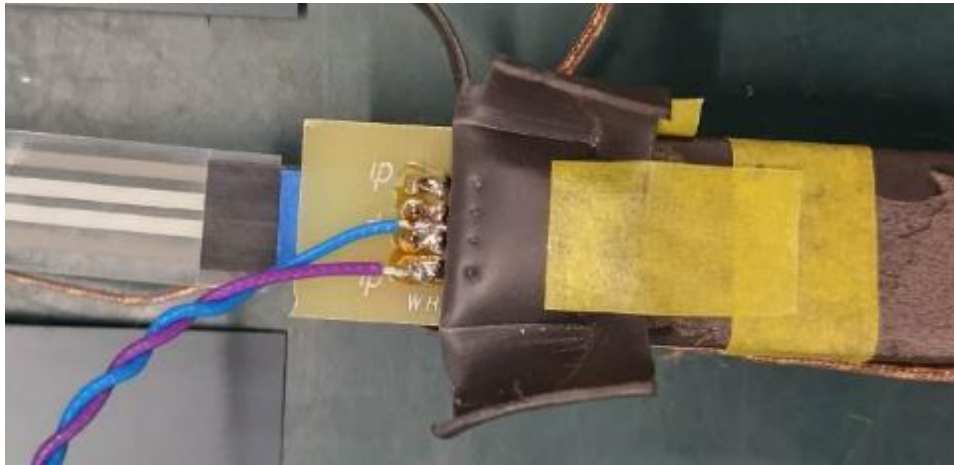

Figure 13 Solder connection
28. Refer Figure 13, slide a new piece of heat shrink over the EL Inverter Assy, shrink using a heat gun, secure wires with a tyrap. Apply Foam tape.